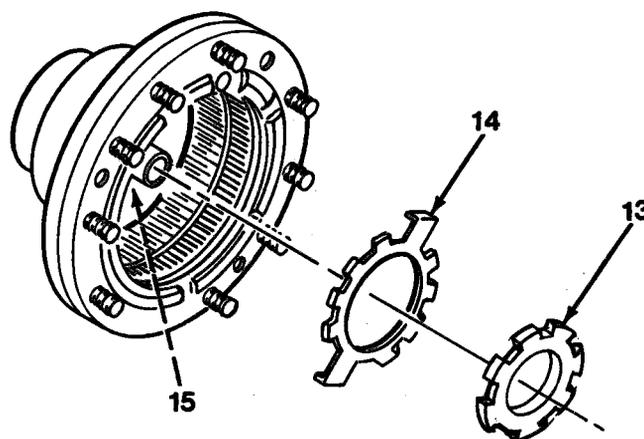
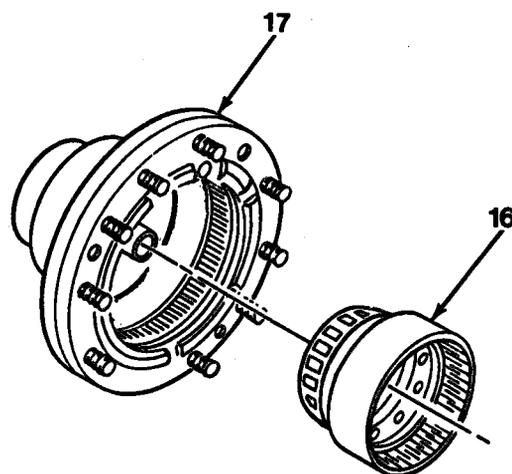

Figure 12-4
Figure 12-5
10. Straighten tab on lockwasher (14). Remove spindle nut (13), lockwasher (14) and centering cone (15, Figure 12-4).
11. Remove ring gear carrier assembly (16) and hub (17, Figure 12-5).
2. Position hub (17, Figure 12-5) onto pivot and spindle.
3. Install ring gear carrier assembly (16).
4. Install centering cone (15), lockwasher (14) and spindle nut (13, Figure 12-4). Tighten spindle nut (13) according to procedures in steps a, b and c below:
- a. Tighten spindle nut (13) while rotating hub to correctly position all components (bearings and spindle cone). Torque spindle nut (13) to 258 to 295 lb-ft (350 to 400 N•m).
- b. Apply 15.8 lb (70 N) tangential force to wheel stud. Adjust spindle nut (13) by loosening until rotation of hub is obtained.
- c. Secure spindle nut (13) by bending tab on lockwasher (14).